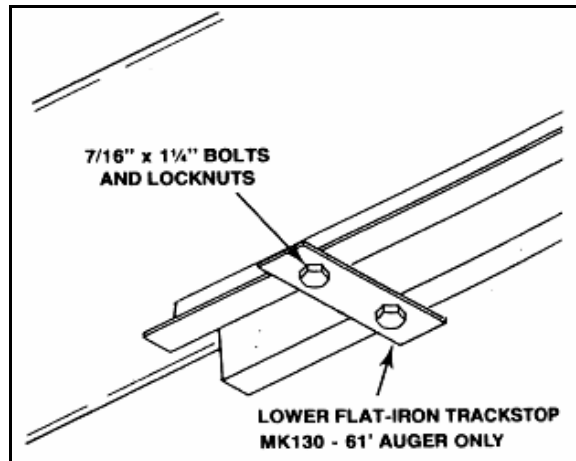

Figure 3.6
- ➔ 3. **MK130 Plus 61'**: attach the flat iron track stop to lower end of track with two 7/16" x 1-1/4" bolts and locknuts (Figure 3.6).